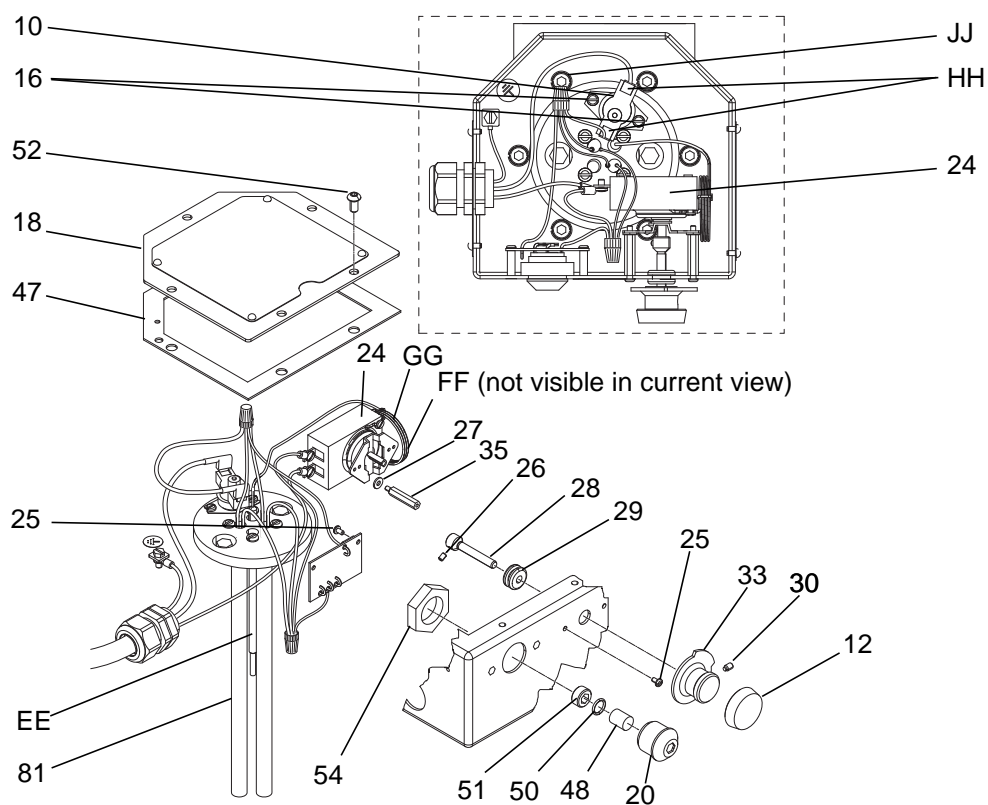
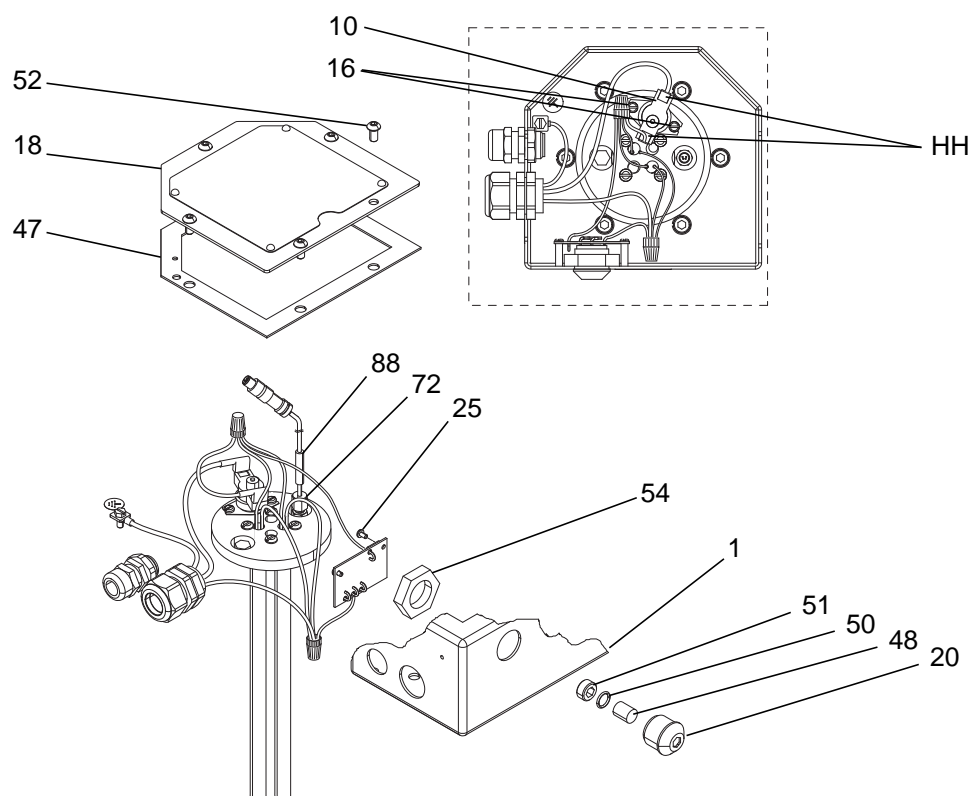

FIG. 10: Thermostat Repair - 24P016
FIG. 11: Sensor Repair - 262853
(Model 24P016 and 24W248 only, see FIG. 10 on page 21)
- Refer to FIG. 10 or FIG. 11 on page 21 for wiring connections.
- *Model 262853 and 24W612 Only:* Make sure the core (68) is aligned with the plug (82) pin in housing (67).
- Make sure gasket (47) is installed and aligned with electrical housing screw holes.
- Secure cover (18) with screws (52). Torque screws to 85-90 in-lb (10 N•m).
4. Perform **Replace Heater Core and Unclog Fluid Passage** procedure on page 23. This includes removing the inlet housing (65).
5. With the inlet housing removed, remove 5 screws (52) and cover (18).
6. Disconnect wires from heater cartridges (81).
7. Remove pipe plug (95) and springs (31) from bottom of core (68).
9. Wire new cartridges per FIG. 10 or FIG. 11, page 19.